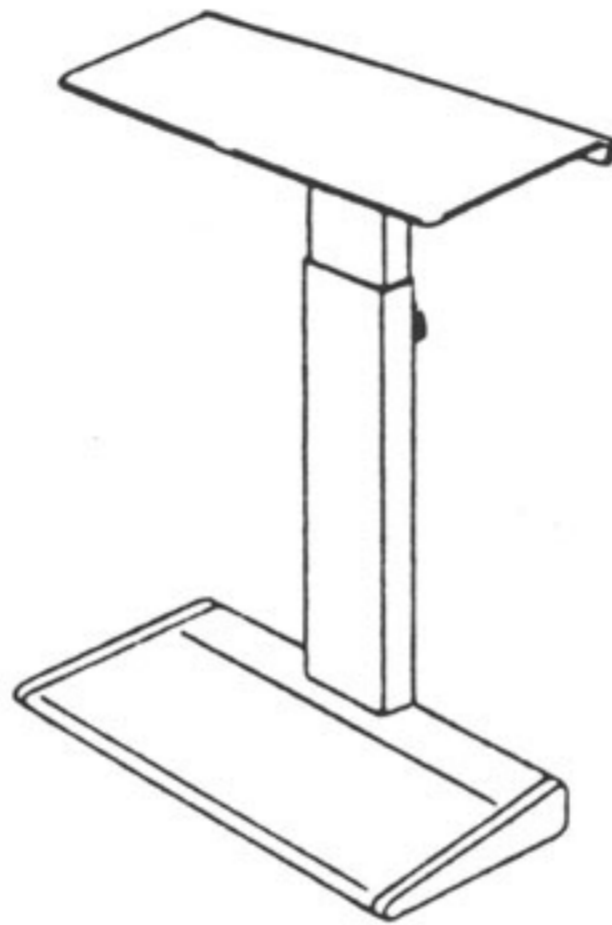

Figure 2-3. Attaching the Mounting Platform
- STEP 2.** Align the four studs on the bottom of the mounting platform with the four mounting yoke holes on the stand assembly. Lower the mounting platform into the holes, as shown in Figure 2-3.